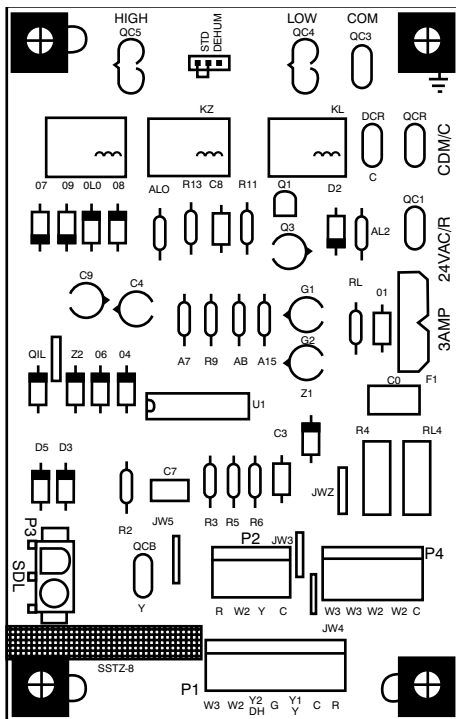

Fig. 11 – Interface Fan Board (IFB)
The cooling speed is marked “LOW” on the interface fan board (IFB) (See Fig. 11). The factory-shipped settings are noted in Table 4. There are 4 additional speed tap wires available for use in either electric heating or cooling (For color coding on the indoor fan motor leads, see Table 3). The additional 4 speed tap wires are shipped loose with vinyl caps and are located in the control box, near the interface fan board (IFB) (See Fig. 11).
2. Remove the current speed tap wire from the “LOW” terminal on the interface fan board (IFB) (See Fig. 11) and place vinyl cap over the connector on the wire.
1. Using Fig. 11, move the two pin DEHUM jumper from the “STD” position to the “DEHUM” position.
2. Remove fan speed tap wire from the “LOW” terminal on the interface fan board (IFB) (See Fig. 11).
- Using Fig. 11, move the two pin DEHUM jumper from the “STD” position to the “DEHUM” position.
When the DEHUM feature is not used, the continuous fan speed will be the same as cooling fan speed. When the DEHUM feature is used, the continuous fan will operate on IFB “LOW” speed when the DH control lead is not energized, or IFB “HIGH” speed when the DH lead is energized (see Fig. 11).